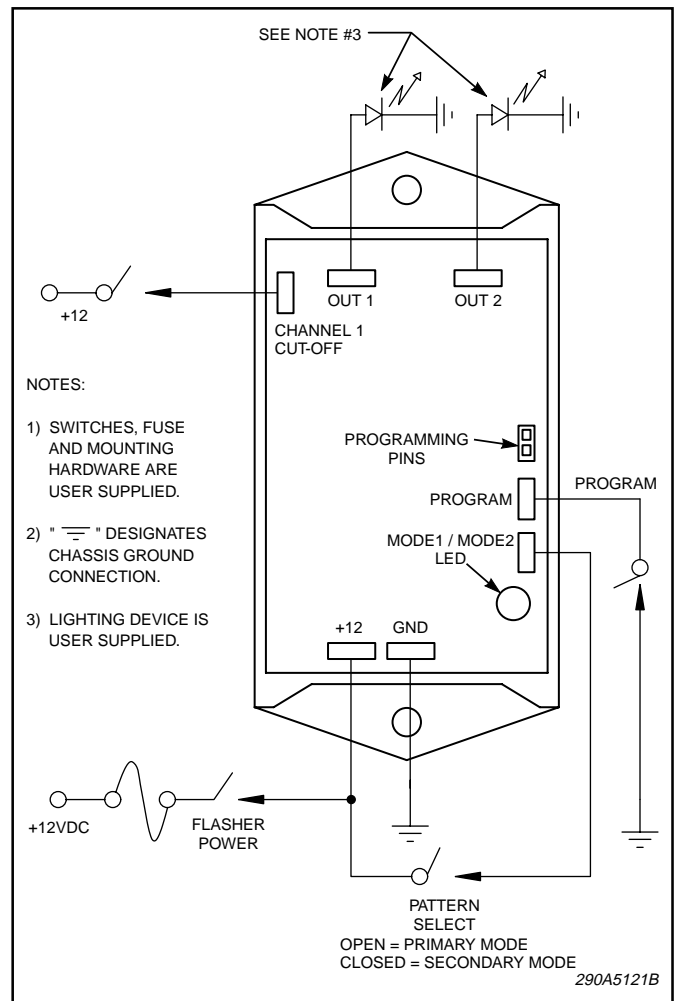

Figure 3.
E. *Flasher (see figure 3).*
Refer to figure 3 when performing the following procedure.